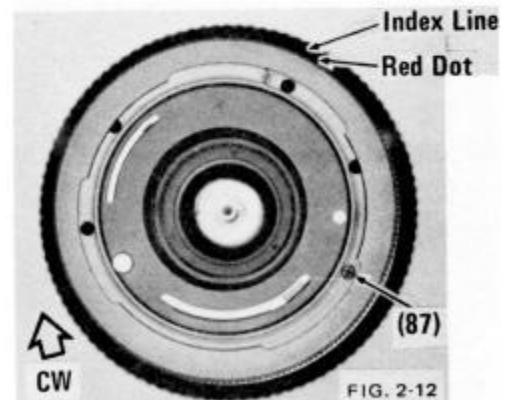

FIG. 2-12
- d) Rotate locking ring clockwise to the mounting position. (red dot aligned with mounting pin and infinity index line); remove the remaining mount screw. Fig. 2-12.